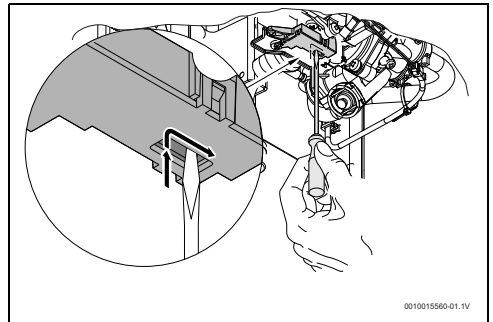

Fig. 31 Rearme do micro-interruptor
- ▶ Posicionar o micro-interruptor conforme Fig 31.